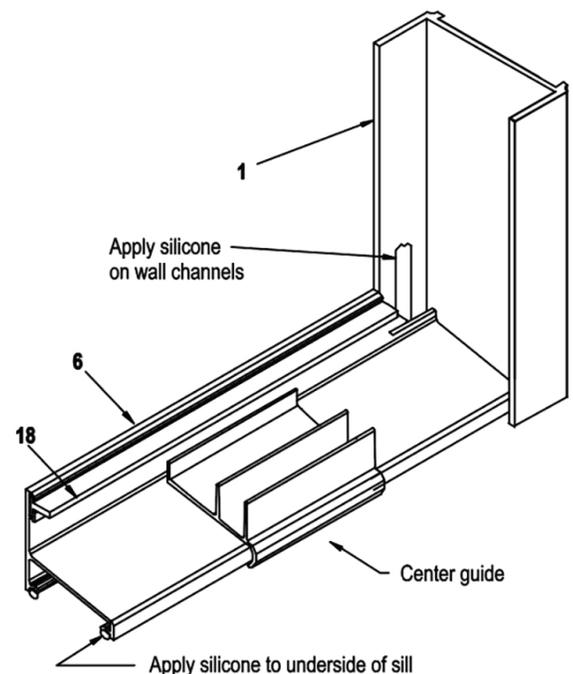

FIGURE 2
1. Set wall jambs (1) in place on walls, centering bottom of jambs on rim of tub. Hold plumb and mark walls for screw holes.
2. Remove and drill 3/16" diameter holes in walls (use a carbide tipped drill bit for tiles walls). Insert plastic wall anchors (2) into holes. Silicone where the wall meets the rim of the tub to seal the bottom of jamb. Set jambs in place and secure to the wall with #8 x 1-1/4" screws (3). Secure bottom bumper (4a) on shower head/inside side with the bottom wall jamb screw.
3. Cut sill (6) to fit opening between jambs. Run a bead of silicone full length to the underside of sill (See Figure 2) and apply silicone to inside of jamb where jamb meets tub. On the inside of jamb, run an 1/4" bead of silicone 1-1/4" up the outside leg of each wall jamb (See Figure 2). Set curb in place, then press firmly to rim of tub. Wipe off any excess silicone before curing. Use tape to hold in place until silicone sets.
4. Cut header (8) 1/32" to 1/16" less than opening width and set in place.
6. Place center guide (7) to center position on sill (See Figure 2). Make sure the center guide is hooked into the slot position on the sill, then snap center guide to sill.
8. Set handle vinyl (14) in place over edges of outside glass panel (17) with bottom of vinyl in line with bottom of bumper. Tap towel bar brackets (9 & 10) in place. Bracket with pull should be to jamb side of slider opposite shower head. Assemble towel bars (11) to brackets using #6 x 3/8" screws (13).